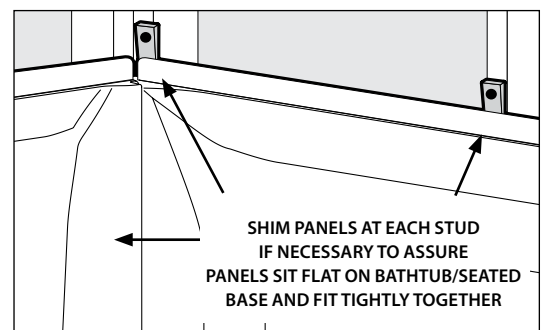

FIGURE 6. You can shim against the stud.
- If necessary, shim between panels and studs to provide a tight fit between the back and side panels. (Fig. 6)